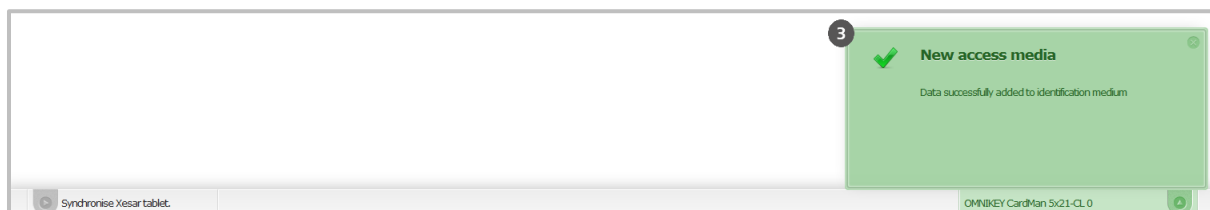

Figure 113: Access medium created successfully
The status line confirms having successfully completed the write process ③ (Figure 113: Access medium created successfully). The Xesar identification medium is now ready for operation.